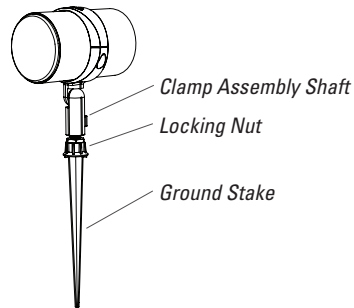

Figure 8
2. Screw the threaded shaft of the clamp assembly onto the ground stake as shown in Figure 8 and tighten the locking nut with a wrench (not supplied) to lock the position.